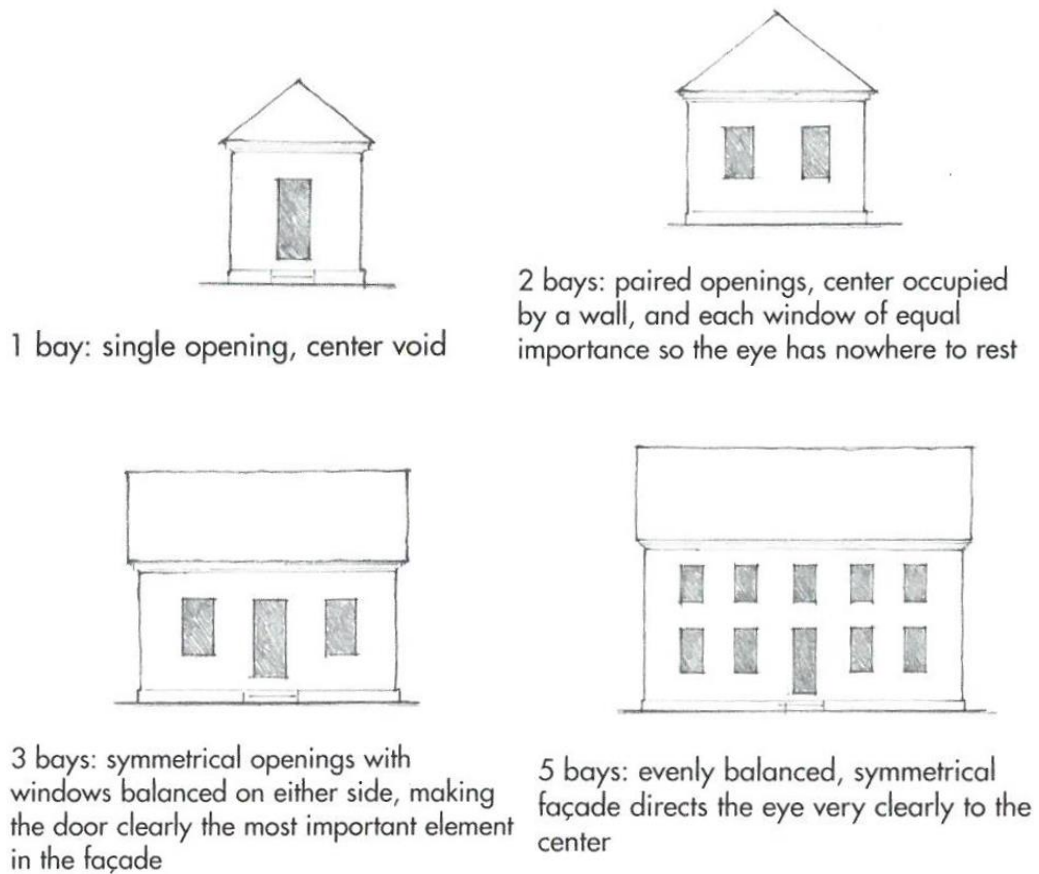

Figure 2: Understanding Bays. Source: Marianne Cusato, *Get Your House Right* (Canada: Sterling, 2007), 24, fig. 2.8 'Unity and Duality'.
- a. Balance. To achieve a better balance of openings and solids it is important to avoid duality, which means the distribution of similar or identical elements in even numbers along a façade. The 2-bay example in Figure 2 demonstrates how duality creates a façade without any obvious focal point. In general, an odd number of bays